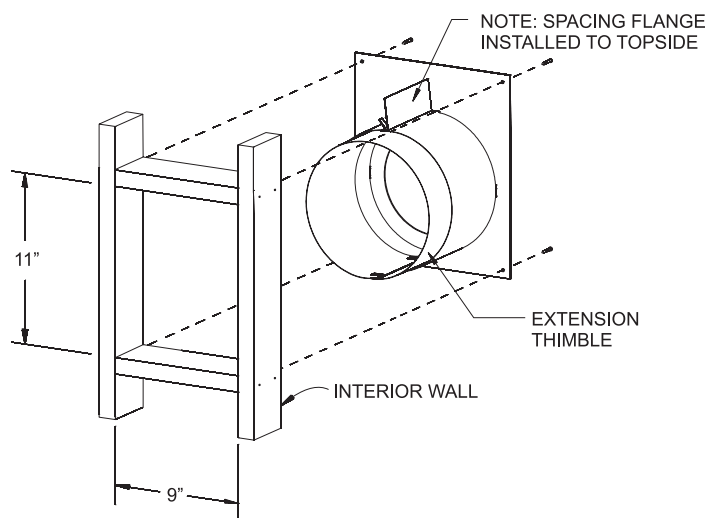

Figure 62
2. Cut hole in wall for wall thimble/firestop assembly (**Figure 62**) into your combustible wall. Note: On brick or block exterior wall a 7-inch diameter hole needs to be cut. Measure the total wall thickness to determine whether or not the extension thimble is to be used. If the combustible wall depth is over 5-3/8 inches, then the extension thimble should be used (**Figure 62**).
3. Install the wall thimble assembly through the framed opening so the firestop plate is on the interior wall (**Figure 62**). Telescope section should extend all the way through the exterior wall. Attach with four 10 x 1 inch screws.